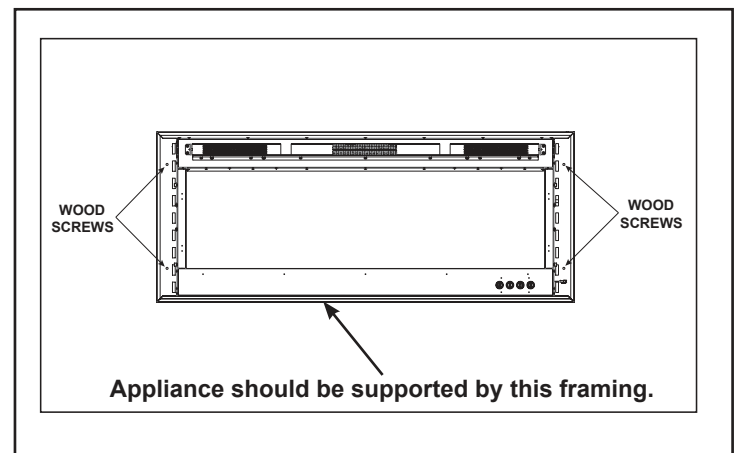

Figure 4.7 Securing the Appliance with Skirt
- #### 2. Install the appliance into the opening (See Figure 4.7). Level the appliance. Ensure that it is centered left to right, then fasten it directly to the framing with two (2) ST4X25 wood screws in both the left and right sides of the skirt. See Figure 4.7.